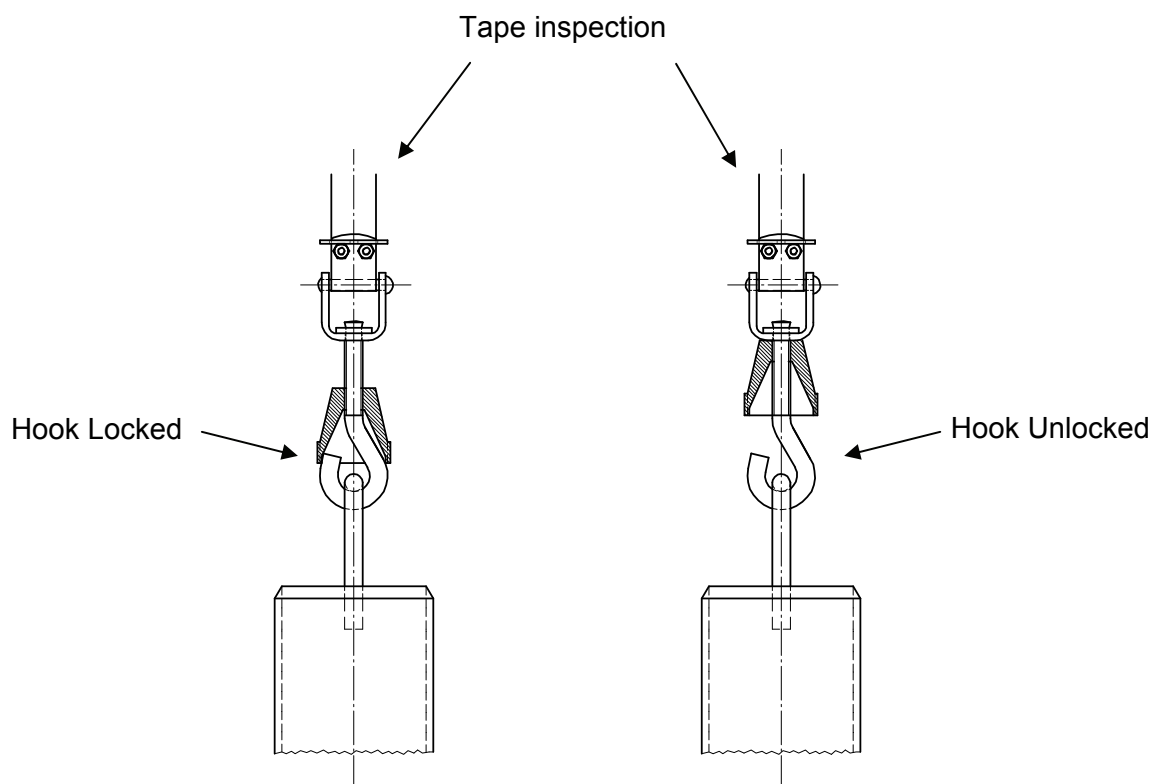

Fig. 1
- Check the closure of the hook locking device according to Fig. 1. The swivel hook has to be locked in use.